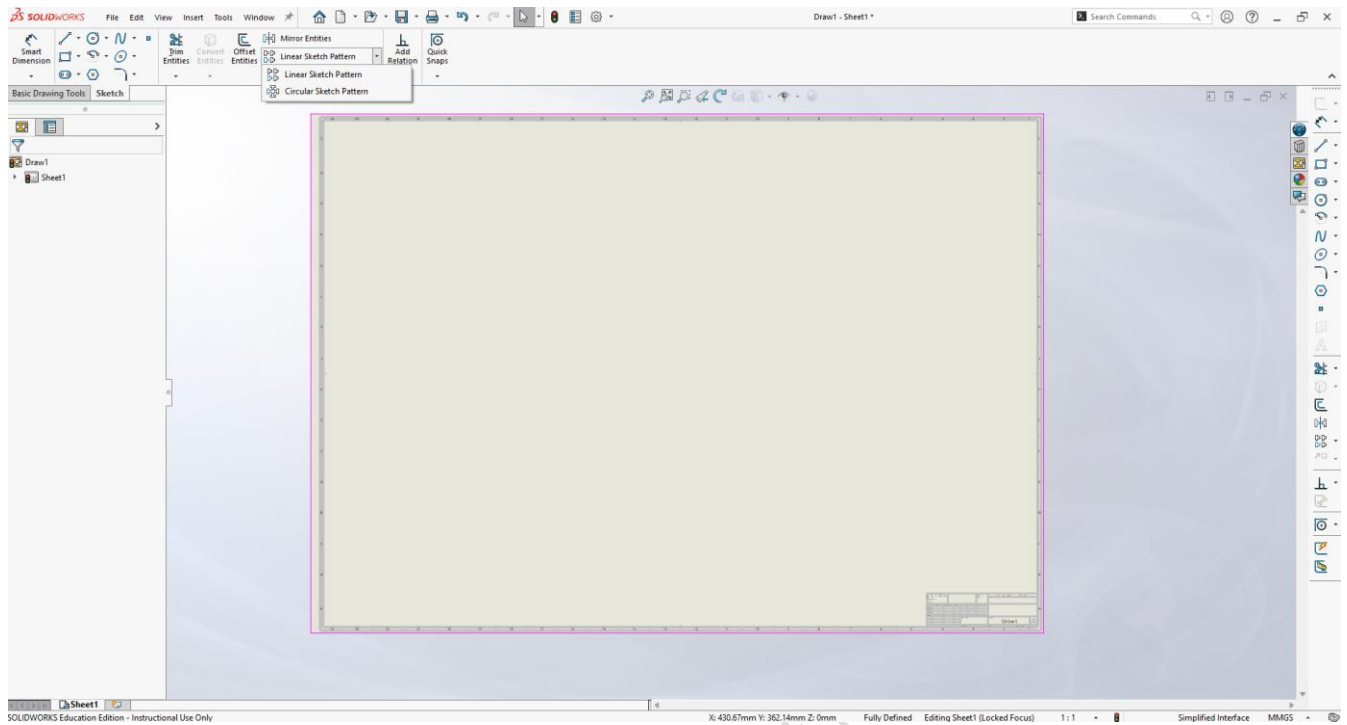

Figure 2.35: Location of Linear and Circular Sketch Pattern
4. Linear Sketch Pattern: Repeats sketch features in a straight line (X or Y direction). Figure 2.35 and Figure 2.36 shows the location of linear and circular sketch patterns.